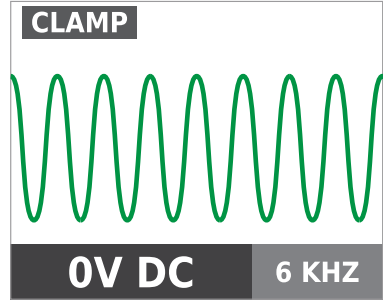

Figure 4.10a
2. Press HIGH signal mode for 2 seconds to select the clamp mode on the transmitter. The clamp mode generates a boosted 6kHz signal in order to provide superior tracing results. The screen on the Transmitter should appear as in Figure 4.10a.